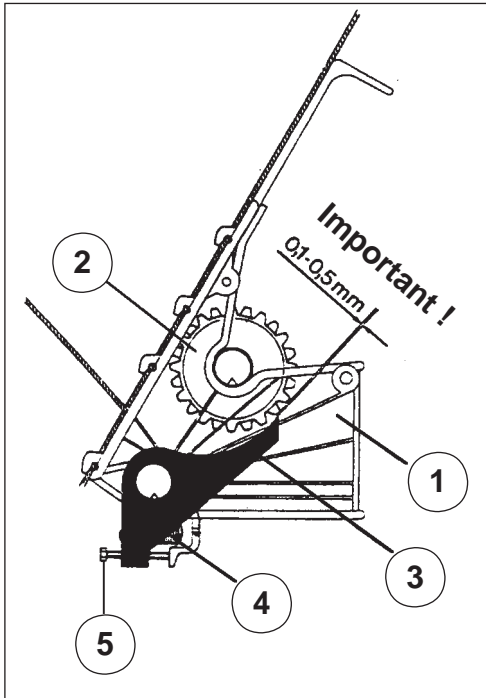

Fig 20
9 Bottom Flaps (Fig 20)
By turning the metering wheel shaft by hand check the flaps are all set to a gap of 0.1 to 0.5mm (refer Fig 20). To adjust individual flaps use the spring tensioning screw (5) (Fig 20).